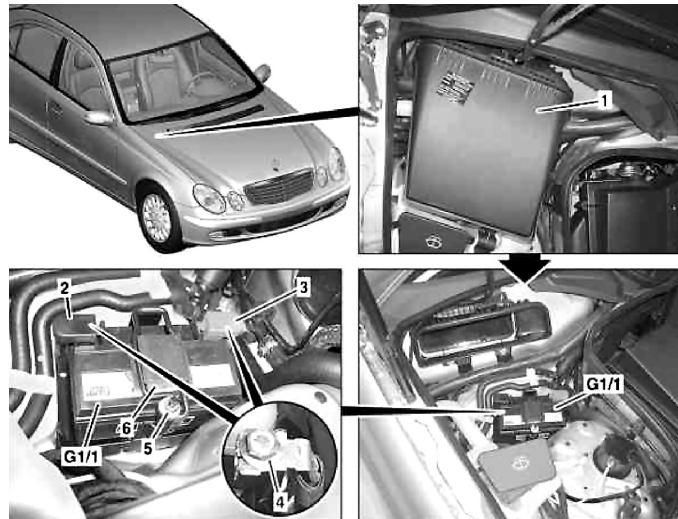

Fig. 2 Auxiliary battery removal
6. Remove housing (1), **Fig. 2**.
7. Open ground terminal cover (2) of auxiliary battery (G1/1), **Fig. 2**.
8. Remove bolt (4) of ground line and ground line, **Fig. 2**.
9. Open positive terminal cover (3) on auxiliary battery (G1/1), **Fig. 2**.
10. Remove bolt (4) from positive line, **Fig. 2**.
11. Remove nut (5), and fold bracket (6) upward, **Fig. 2**.
2. Install nut (5), and fold bracket (6) downward, **Fig. 2**.
8. Install housing (1), **Fig. 2**.